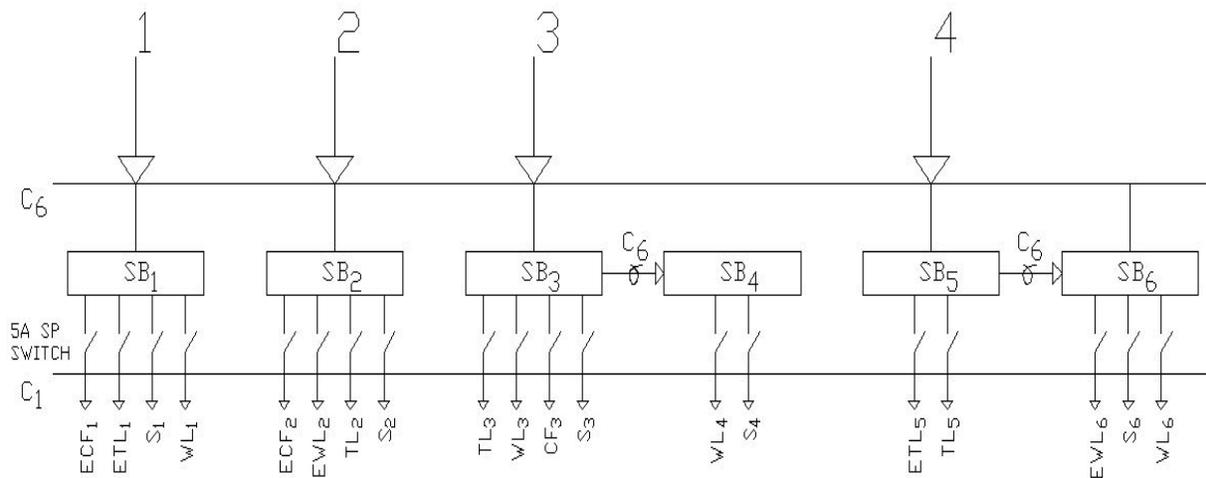

Fig. 9.1: Circuit Diagram
- Below the rectangle draw the line and arrow for ECF_1 as shown in Figure.9.1. Select the arrow and line and make an array of 4 columns and 1 row using them.